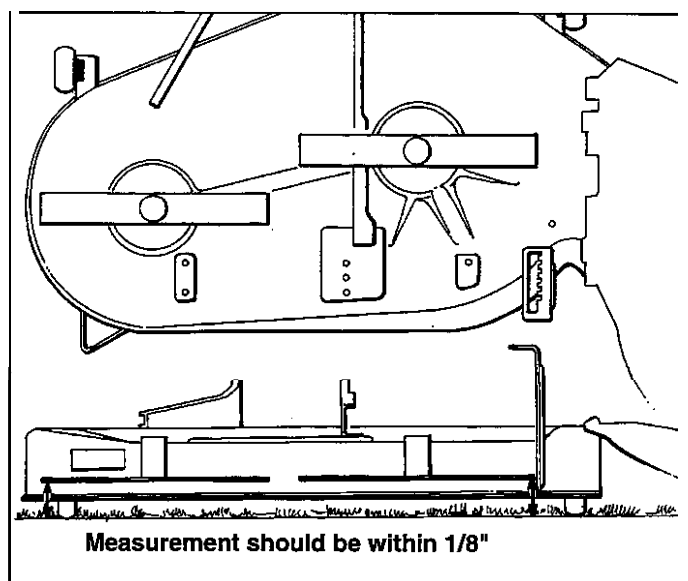

Figure 24. Leveling the Mower Deck Side-to-Side
3. Place the mower in high-cut position. Arrange the mower blades so that they are both pointing from side-to-side (figure 24).
4. See figure 24. Measure the distance between the outside tips of each blade and the ground. If there is more than $\frac{1}{8}$ " (3mm) difference between the measurements on each side, proceed to step 5. If the difference is $\frac{1}{8}$ " (3mm) or less, proceed to step 6.